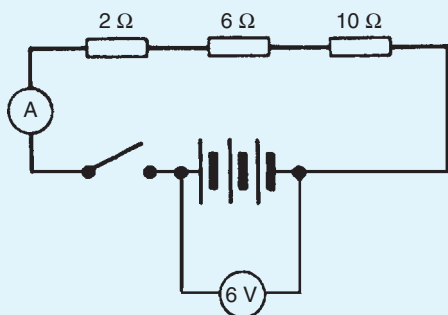

Figure 5.43
6. With the switch in Fig. 5.43 closed the ammeter reading will indicate:
7. A $6\ \Omega$ resistor is connected in parallel with the three resistors of Fig. 5.43. With the switch closed the ammeter reading will indicate: